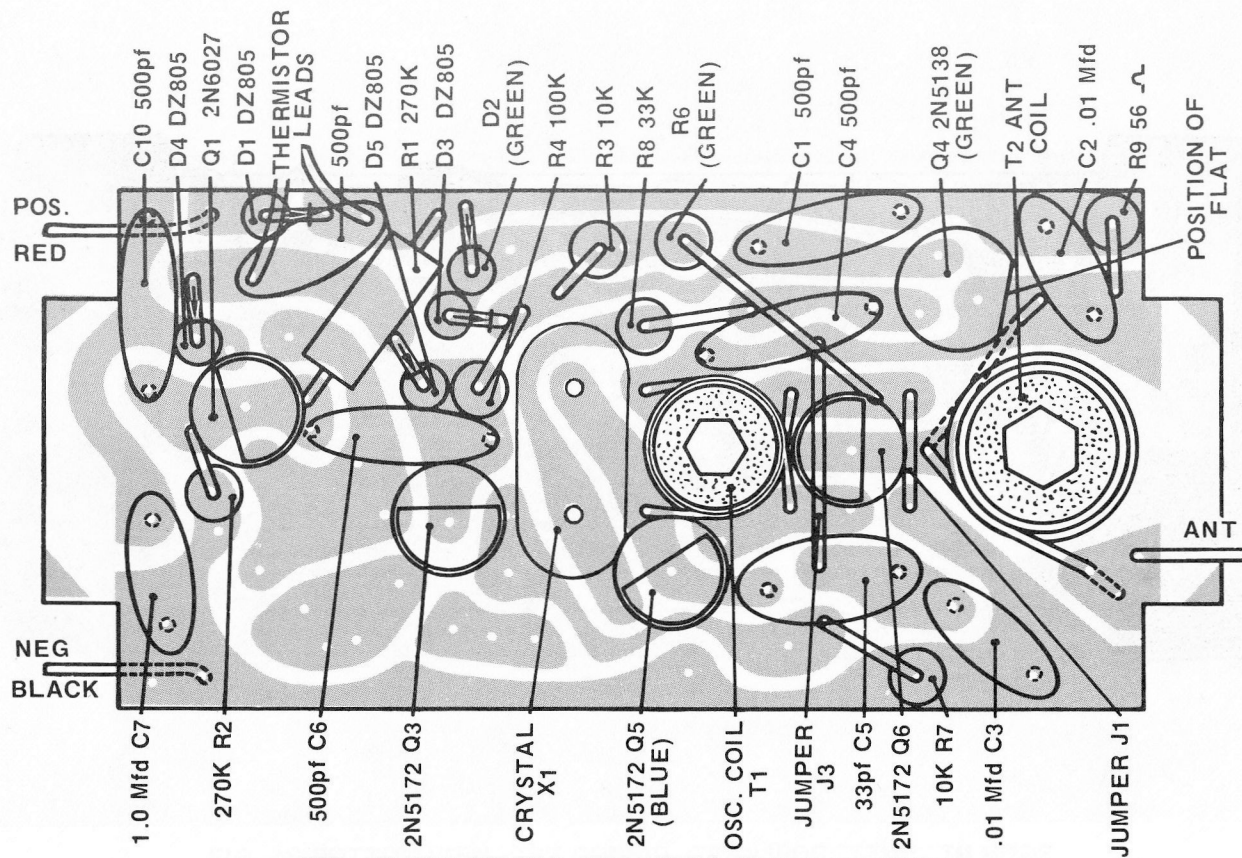

FIG. 1B "B" CONFIG. TRANSROC, TEMP. TM MODE
If your TRANSROC is of the "B" configuration, it will look like Figures 1B, 2B, and 3B, and the modification steps will be per the instructions which appear below:
- 2B. ( ) Install C7 (a 1.0 mfd capacitor used in the temperature TM mode). Be sure to observe polarity by connecting the capacitor lead with the red dot to the land marked ( + ) in Figure 1B.
- 1B. ( ) Desolder and disconnect the thermistor leads from the PC board. Also remove the 500 pf capacitor from these same eyelet terminals. (See Figures 1B and 2B.)
- 3B. ( ) Remove C7 (a 1.0 mfd capacitor). (See Figure 1B.)